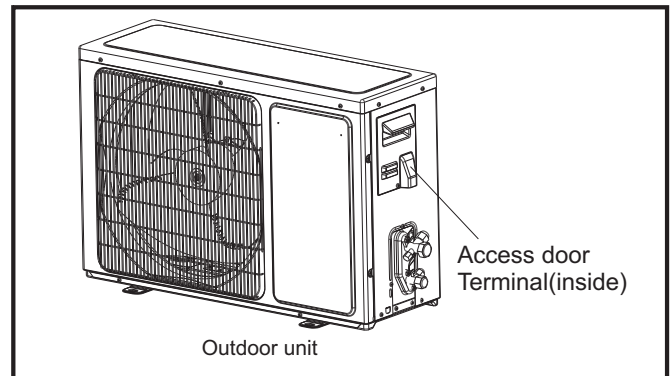

Fig. 22
- 1) Remove the access door from the unit by loosening the screw. Connect the wires to the terminals on the control board individually as the following(Fig. 22).